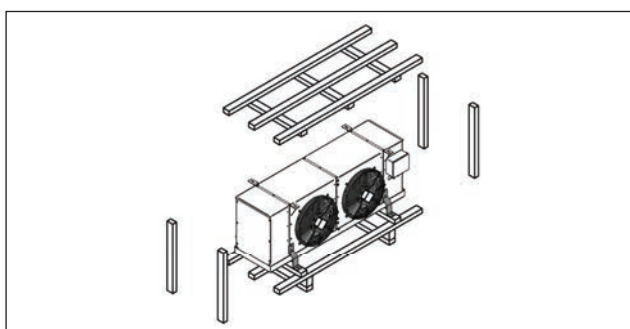

Fig. 8.3
2. Remove the protective film and the wooden crate (but not the wooden pallet) on arrival (Fig. 8.3).